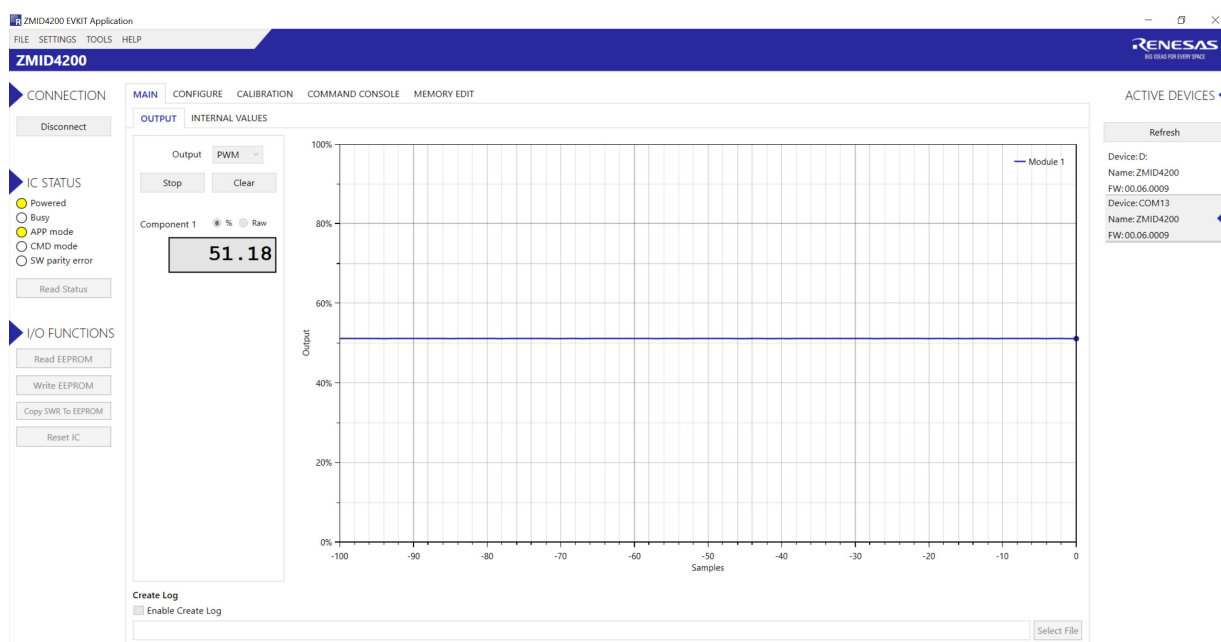

Figure 3. Calibration GUI
1. Connect the *ZMID4200STKI Inductive Position Sensing Starter Kit* with the PC on which the above application is installed (see Figure 3).
4. After the successful connection, the window appears as shown in Figure 3.